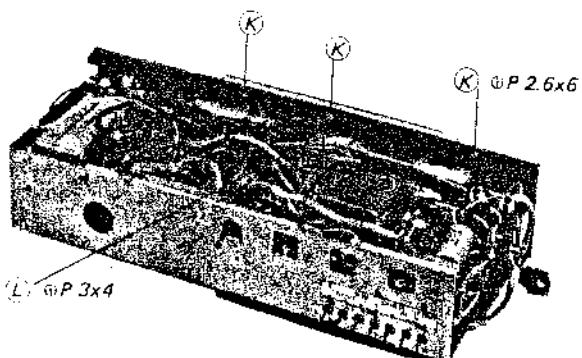

Fig. 2-7
8. Remove the three screws ($\Phi P 2.6 \times 6$) marked ⑬ and the screw ($\Phi P 3 \times 4$) marked ⑭ in Fig. 2-7.